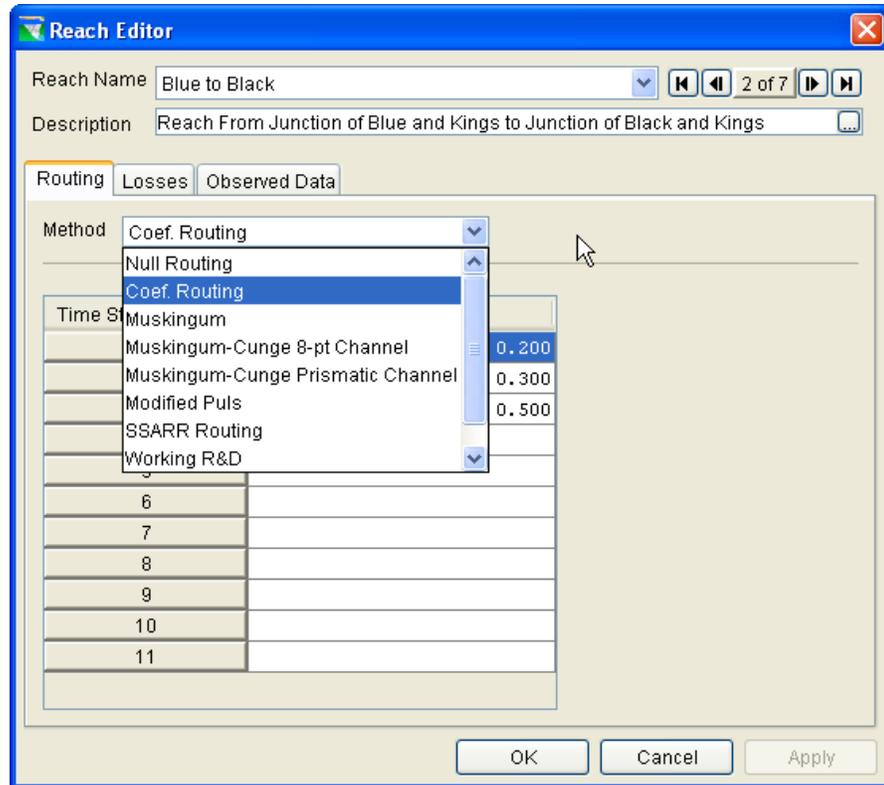

Figure 18. Reach Editor
- Edit Reach Properties.** With the reach tool  or the pointer tool  selected, right-click on the desired reach and select **Edit Reach Properties**. Select the routing method from the **Method** list (as shown in Figure 18) and fill in the necessary parameters for the selected routing method. The default routing method is **Null Routing** (no route). The **Coefficient Routing** method can be used to mimic most linear